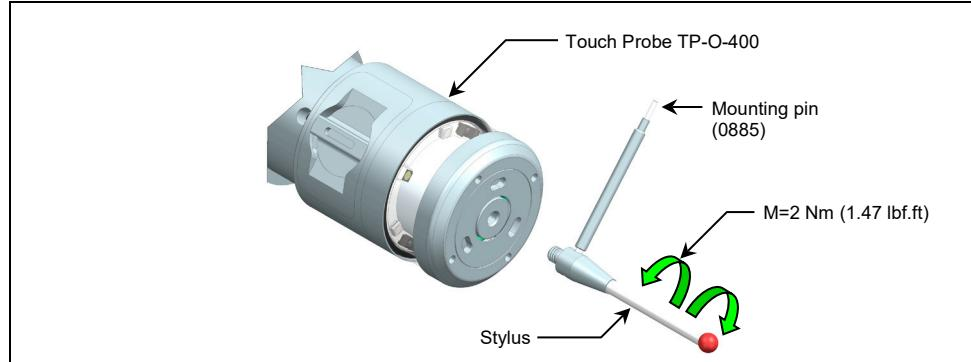

Fig. 5      Stylus Change
2. Carefully screw the new stylus with mounting pin into the touch probe (Fig. 5).